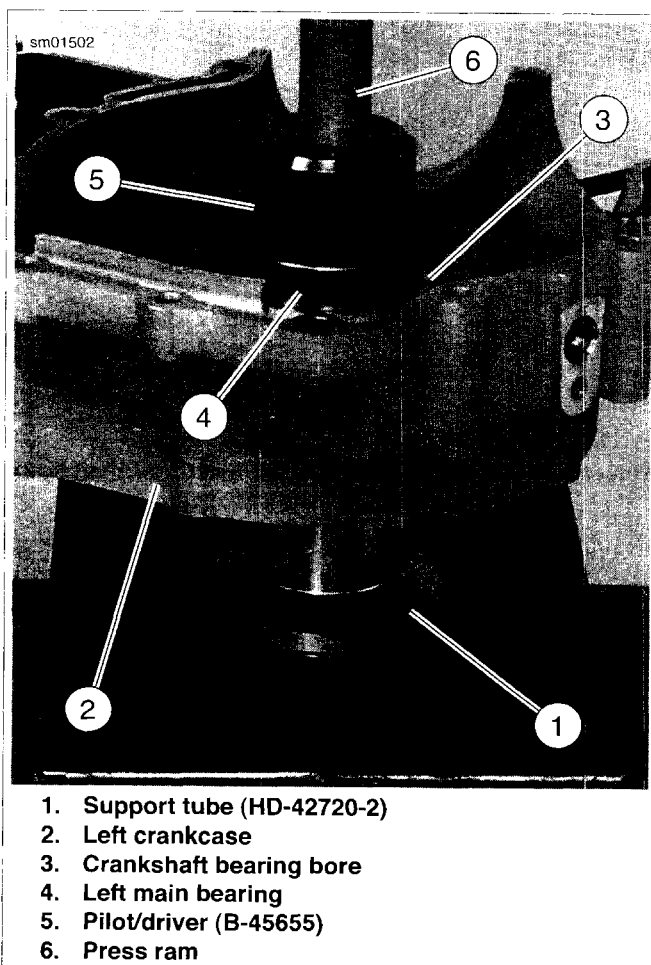
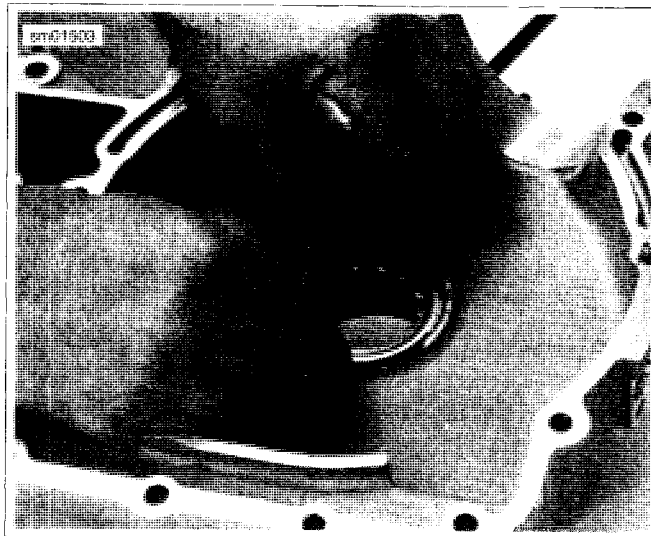

Figure 3-81. Installing Left Main Bearing in Crankcase
Figure 3-82. Installing Left Main Bearing Retaining Ring
1. See Figure 3-81. Using CRANKCASE BEARING REMOVER/INSTALLER (Part No. B-45655) and CRANKCASE BEARING REMOVER/INSTALLER BASE (Part No. HD-42720-2), press left main bearing into the left crankcase.
- a. Place support tube (1) on press bed with recessed cup end facing up.
- b. With the inboard side of the left crankcase (2) facing upward, position crankshaft bearing bore (3) over support tube.
- c. Place left main bearing (4) over bearing bore. Insert pilot/driver (5) through left main bearing, through crankshaft bearing bore and into support tube.
- d. Apply pressure with press ram (6) until left main bearing bottoms out in bearing bore.
2. See Figure 3-82. See Figure 3-80. Install **new** retaining ring (7) from the inside of the left crankcase.